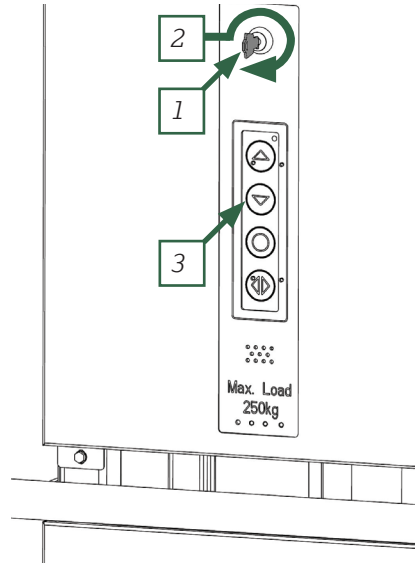

Figure 7.
- A. Insert the emergency lowering key into the control panel at the back of the lift. (*Figure 7*).